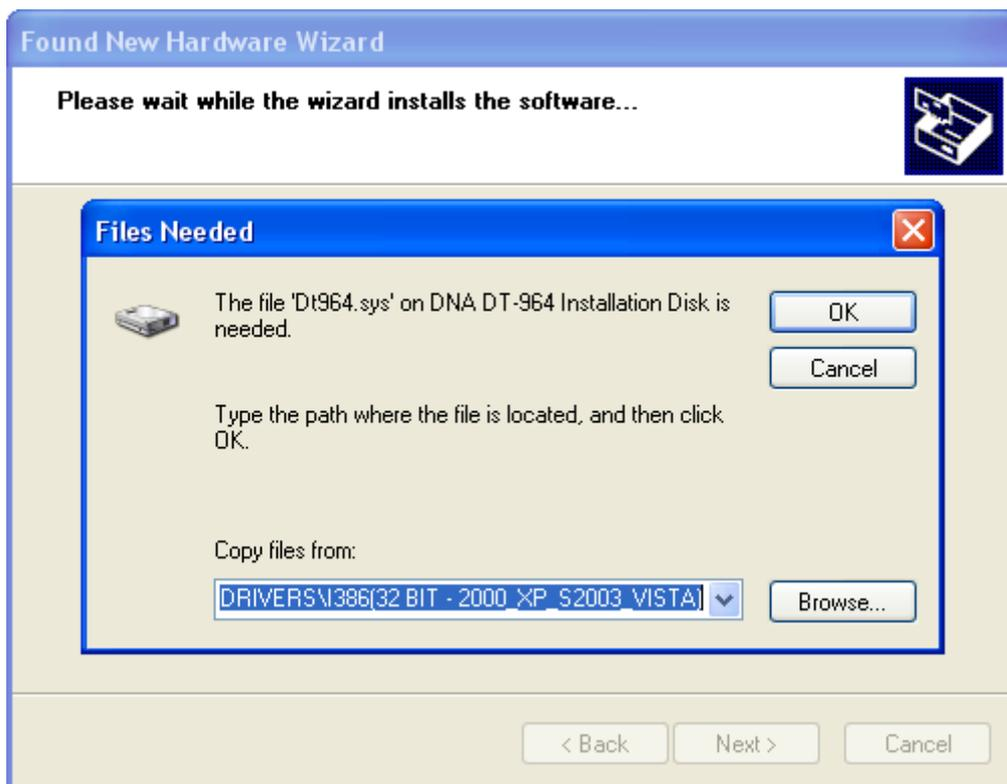

Fig.10 Selecting the path to Dt964R.sys file on the USB flash drive
- Select the path to Dt964.sys file on the USB flash drive by clicking (Fig.10).
- Making sure that the path to the file in the window (Fig.10) is correct, click .